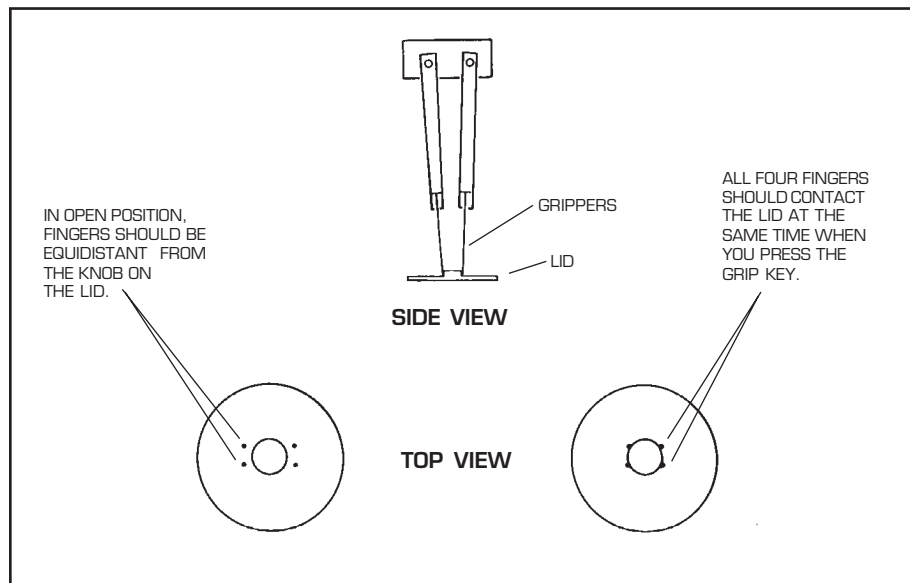

Figure 4.3
4. Use the motion keys to position the grippers over lid #1 (small lid). Press the GRIP and RELEASE keys repeatedly to ensure that the fingers can firmly grasp the lid, and watch carefully to ensure that each finger contacts the lid at the same time (see Figure 4.3 on the next page).
11. When the turret stops moving, close and open the grippers again and check your calibration against the criteria in Figure 4.3. Remember to release the lid. If the position is correctly calibrated, go on to step 12. If it is not, repeat steps 4 through 11 with lid #1.